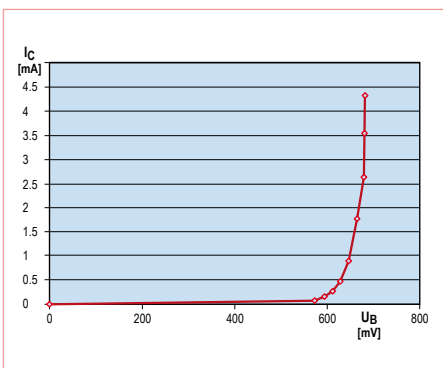

Figure 2. Base current versus base-emitter voltage.
**Figure 2** ( $I_C$  versus  $U_B$ ) shows the typical exponential curve of a silicon diode. On the linear scale you see a breakpoint at approximately 0.6 V. Above this level the slope of the current curve keeps rising (exponential curve). The measurement data shows that no measurable base current flows at a base voltage of (for example) 400 V, so there is